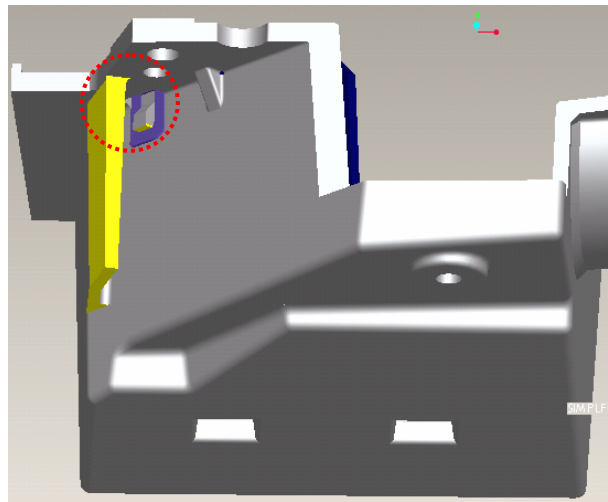

Fig. 6-2
- II. Insert the "CLIP of FM1" into the hole on the HSG ILL and make sure "CLIP of FM" hook on the HSG ILL well (Fig. 6-2)